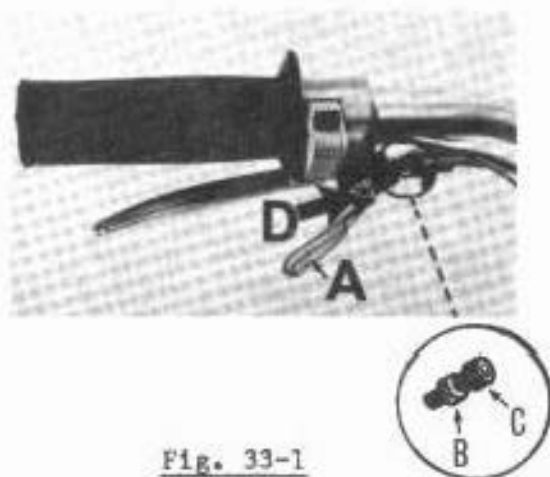

Fig. 33-1
- 1) The choke lever is found on the left hand lever bracket "A" Fig. 33-1
- 3) To adjust first unlock the lock nut "B" on the adjuster "C" and adjust until the required free play is achieved on the lever "A" Fig. 33-1.
- 7) To replace the choke inner wire slacken the nut "D" Fig. 33-1 at the lever - remove the carburettor from the intake pipe and push the inner wire down and pull it out from the bottom of the choke slide.
- 10) Pass the wire through the adjuster and into the pinch bolt on the choke lever - pull gently on the wire to take up any slack and tighten the pinch bolt. Adjust as described above, items 2 to 5.
- 11) If it is necessary to replace the outer casing, remove the inner wire first and install the outer casing following the same route as the old one. Then install the inner wire as described above (items 7 to 10).